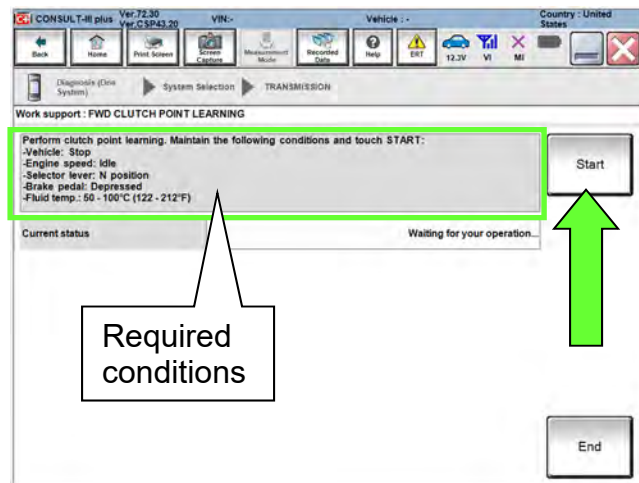

Figure 176
- Confirm that all of the required conditions indicated in Figure 176 are being met.
178. While maintaining all conditions shown in Figure 176 and the "Current status" indicates "EXECUTING", shift the CVT into **D** and then wait until the Current status indicates "COMPLETED".